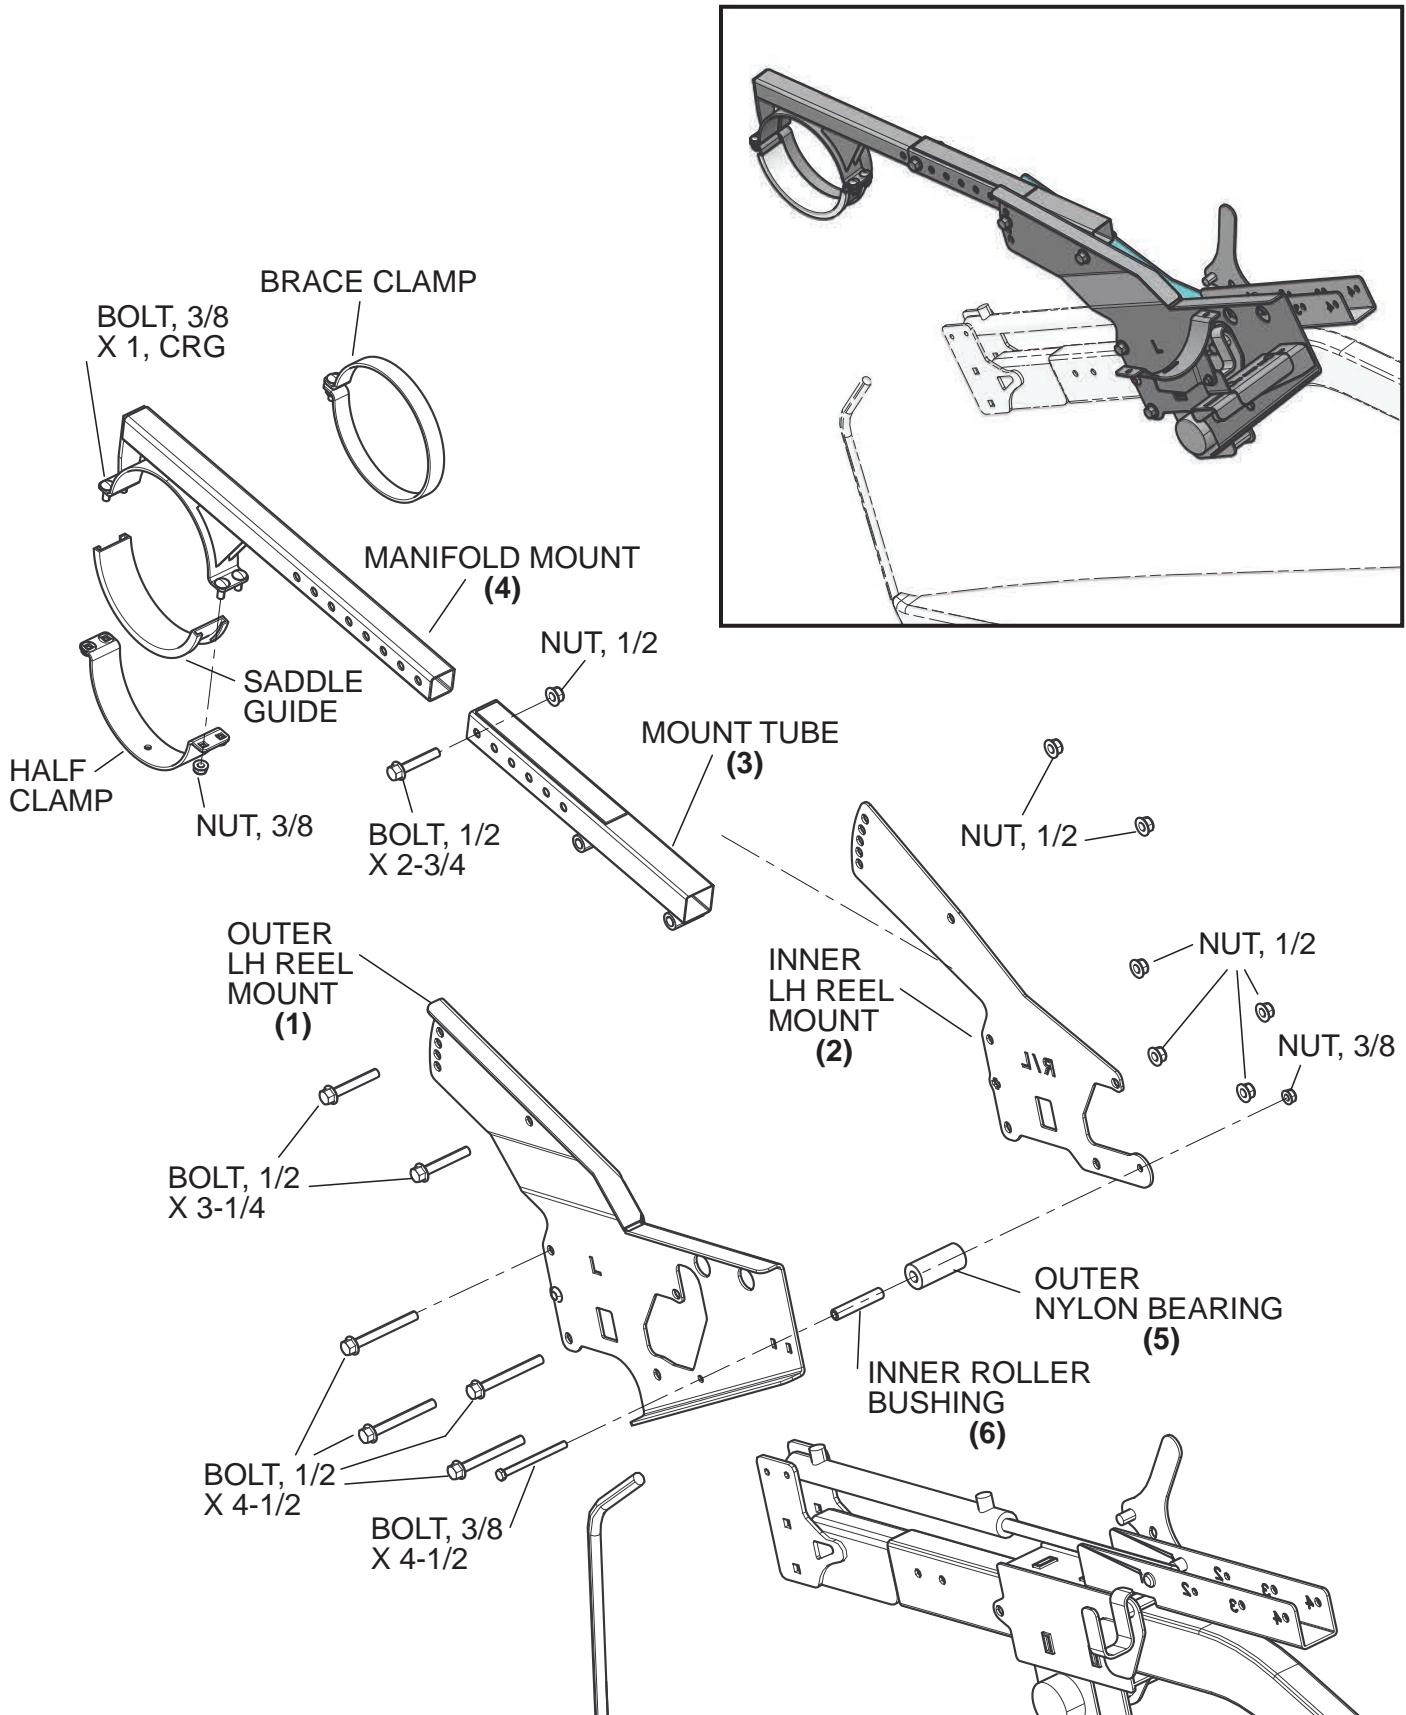

Figure 8: Reel arm mount (LH)
1. Clamp the outer LH reel mount **(1)**, and the inner LH reel mount **(2)** around the OEM rear arm as shown in (Figure 8) using four 1/2 X 4-1/2 flange bolts and nuts.
3. Align the mount tube **(3)** to the holes in the top of the reel mounts **(1) & (2)** and secure with two 1/2" x 2-3/4" bolts and nylock nuts.